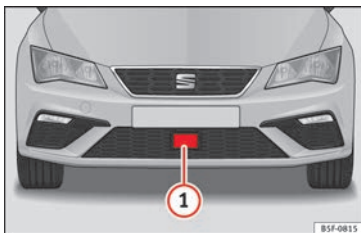

Fig. 199 On the front bumper: radar sensor.
» **Fig. 199 ①**. This sensor can detect vehicles in front up to a distance of approximately 120 m.